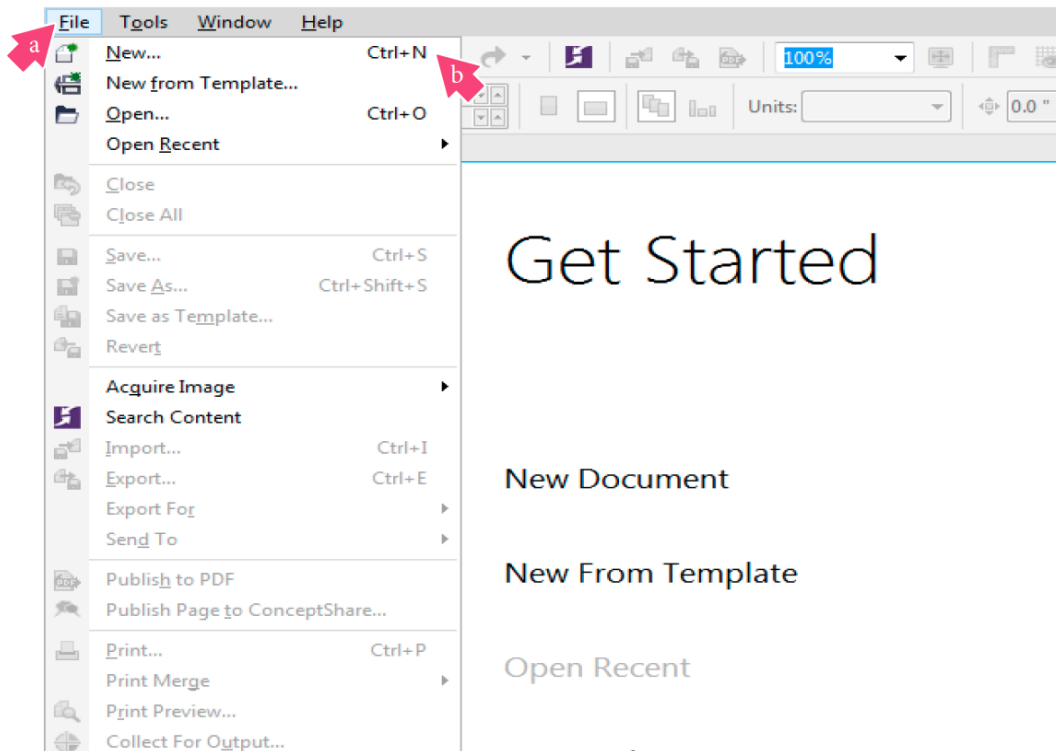

FIGURE 1
1. Open a **New Document** in CoreIDRAW. See Figure 1.